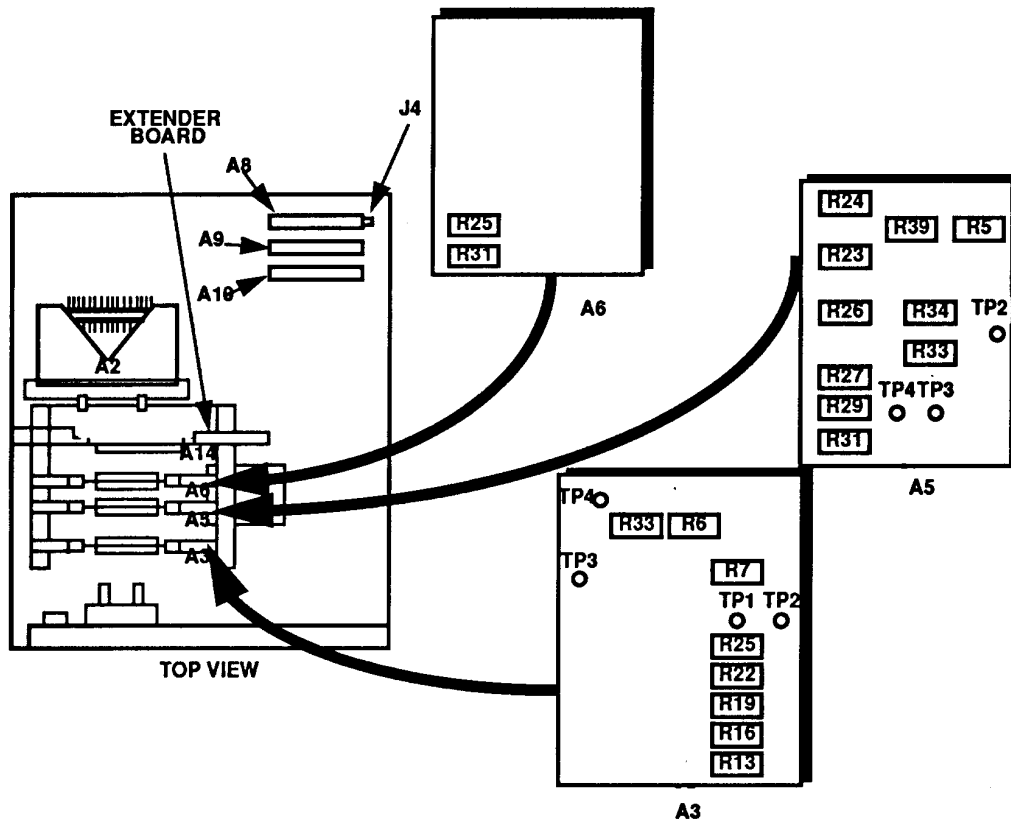

Figure 1. Test instrument – adjustment and test point locations.
- (1) Set **POWER** switch to **OFF**.
- (2) Remove cover from TI.
- (3) Remove assembly A3 and reconnect using extender board (fig. 1).
- (4) Position controls as listed in (a) through (e) below:
- (5) Connect **TI RF OUTPUT** to measuring receiver power sensor and adjust **TUNING COARSE** and **FINE** control for an indication of **80.00000 MHz** on measuring receiver.
- (6) Disconnect cable from J4 on assembly A8 (fig. 1) and adjust A3R7 (fig. 1) for an indication of 0.00 on **FREQUENCY** display (R).
- (7) Reconnect cable to J4 (fig. 1).
- (8) Connect audio analyzer **INPUT HIGH** to A3TP2 and A3TP1 (common) (fig. 1). Do not connect to chassis ground.
- (9) Set audio analyzer to measure V dc and adjust A3R6 (fig. 1) for a -1.004 V dc indication on audio analyzer (R).
- (10) Move positive lead to A3TP4 (fig. 1).
- (11) Adjust A3R33 (fig. 1) for a 1.000 V dc indication on audio analyzer.
- (12) Repeat (5) above and adjust A3R25 (fig. 1) for 80.00 MHz on **FREQUENCY** display (R).
- (13) Set **TUNING RANGE** switch to **4-20 MHz**.
- (14) Adjust **COARSE** and **FINE TUNING** control for an indication of 20.00000 MHz on measuring receiver.
- (15) Adjust A3R22 (fig. 1) for 20.00 MHz on **FREQUENCY** display (R).
- (16) Set **TUNING RANGE** switch to **1-5 MHz**.
- (17) Adjust **COARSE** and **FINE TUNING** controls for an indication of 5.00000 MHz on measuring receiver.
- (18) Adjust A3R19 (fig. 1) for 5.000 MHz on **FREQUENCY** display (R).
- (19) Set **TUNING RANGE** switch to **.25-1.25MHz**.
- (20) Adjust **COARSE** and **FINE TUNING** controls for an indication of 1.25000 MHz on measuring receiver.
- (21) Adjust A3R16 (fig. 1) for 1.250 MHz on **FREQUENCY** display (R).
- (22) Set **TUNING RANGE** switch to **50-250 kHz**.
- (23) Adjust **COARSE** and **FINE TUNING** controls for an indication of 0.25000 MHz on measuring receiver.
- (24) Adjust A3R13 (fig. 1) for 250.0 kHz on **FREQUENCY** display (R).
- (25) Set **POWER** switch to **OFF** and reinstall assembly A3 and extender board (fig. 1) in proper locations.
- (26) Set **POWER** switch to **ON**.
- (2) Remove assembly A6 and reconnect using extender board (fig. 1).
- (3) Set **POWER** switch to **ON**.
- (4) Set **RF OUTPUT** switch to **0 dBm**.
- (5) Set measuring receiver controls to measure power and adjust **RF OUTPUT LEVEL** control for a +3.00 dBm indication on measuring receiver.